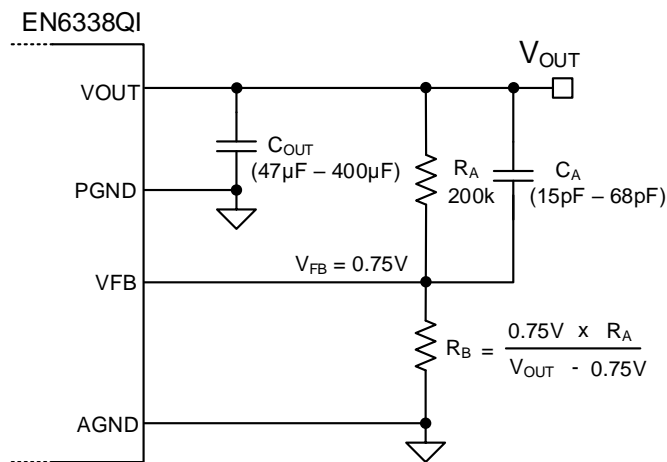

Figure 2: VOUT Resistor Divider & Compensation Capacitor
5) Output Voltage Settings (J1) - The output voltage may be adjusted quickly by placing a jumper one of the selections on J1. The voltages are pre-set by the resistors R11, R10, R9, R8 (on back of board) which corresponds to 3.3V, 2.5V, 1.8V and 1.0V respectively. No jumper will set the voltage to the reference voltage of 0.75V. The compensation C_A ($C_A = C10$) may be adjusted according to Table 1 for best results. The output voltage may also be adjusted to any voltage as indicated by the equation for R_B shown in Figure 2.